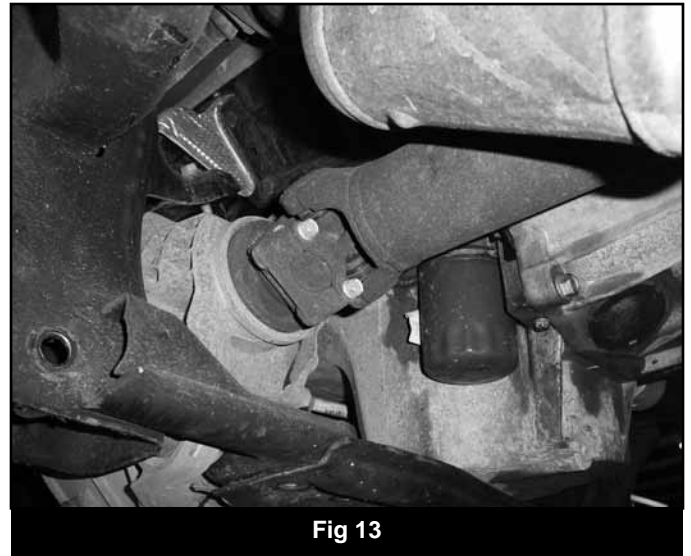

**Figure 11**
24. Remove the front and rear lower control arm bolts and remove the control arms from the vehicle (Fig 11) Save the control arms and mounting hardware.
28. Disconnect the electrical connector from the front differential actuator (Fig 11) Remove the wire from the three plastic wire retainers along the top of the differential.